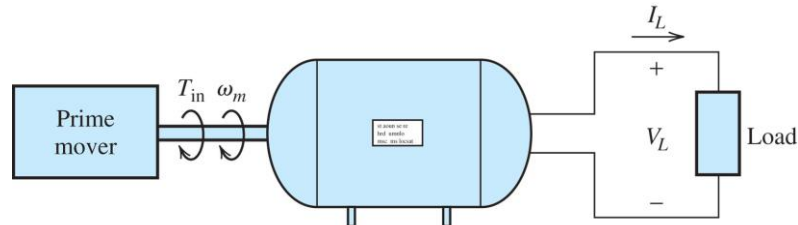

Figure 3.1 DC Machine operation flow
3. (a) State all types of power and losses involved (including the equation) for dc machine operation as in Figure 3.1